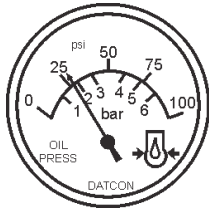

Figure 56. Oil Pressure Gauge
14. The engine oil pressure gauge (Figure 56) will indicate the oil pressure (kg/ cm²) of the engine. Under normal operating conditions the oil pressure is approximately